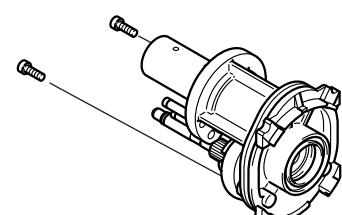

Fig. 11C
5. Fasten bearing retainer which has been assembled to swash bearing section, with adhesive hex socket head bolt M4x12, onto inner housing as illustrated in Fig. 11C.